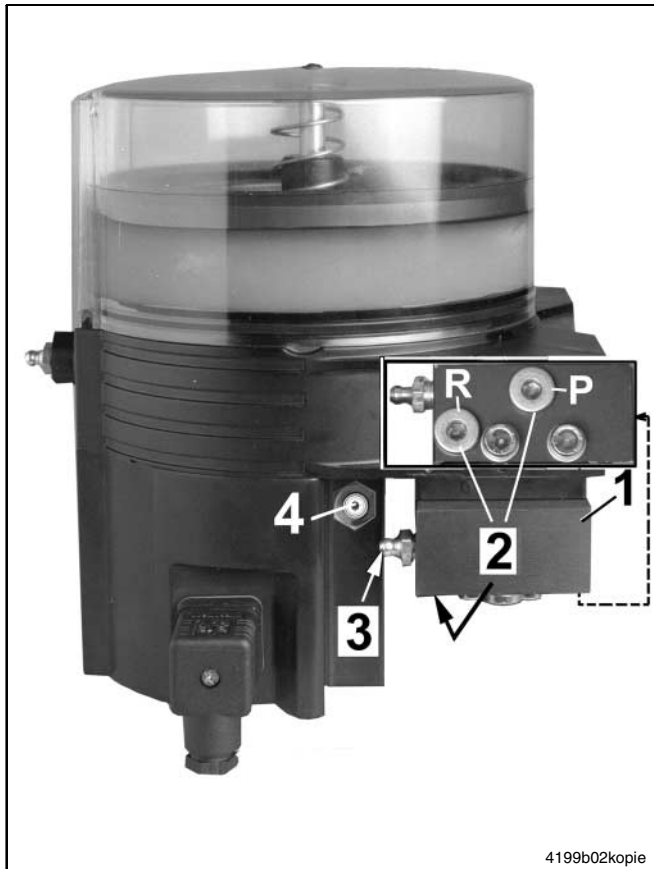

Fig. 21 QLS 301 without mounted SSV divider valve with connection for external SSV divider valve KN QLS
- Pump without the SSV divider block attached respectively with external divider block KNQLS (see fig. 21)